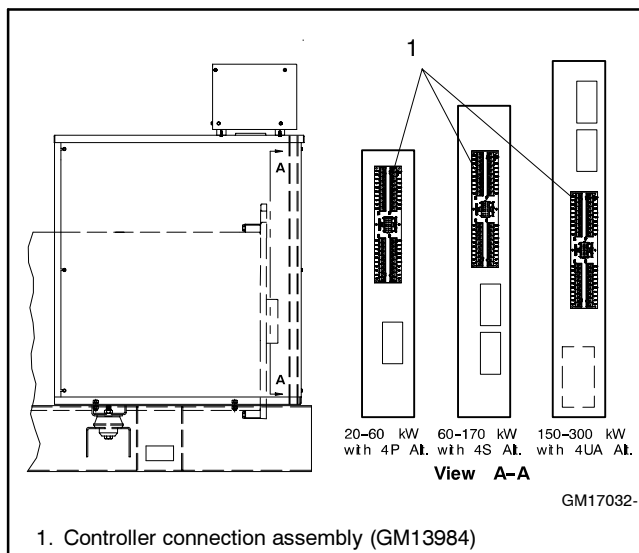

Figure 2 Controller Connection Assembly Mounting Locations in Junction Box (20-300 kW)
- 2.1.2 Attach the controller connection assembly (GM13984) to the junction box using six screws (X-51-3), spacers (X-712-9), and nuts (X-6210-4). Place the spacers between the controller connection assembly and the junction box bracket. See Figure 2 for the mounting location.